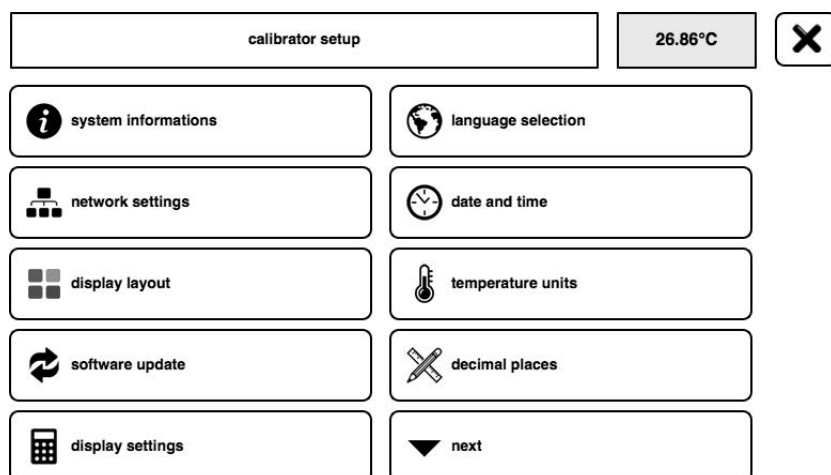

Figure 28: Calibrator Setup Window (Page 1 of 2)
1. In the “Calibrator Setup” window, see Figure 28, tap the “Network Settings”  icon.
5. In the “Calibrator Setup” window, see Figure 28, tap the “Software Update”  icon.